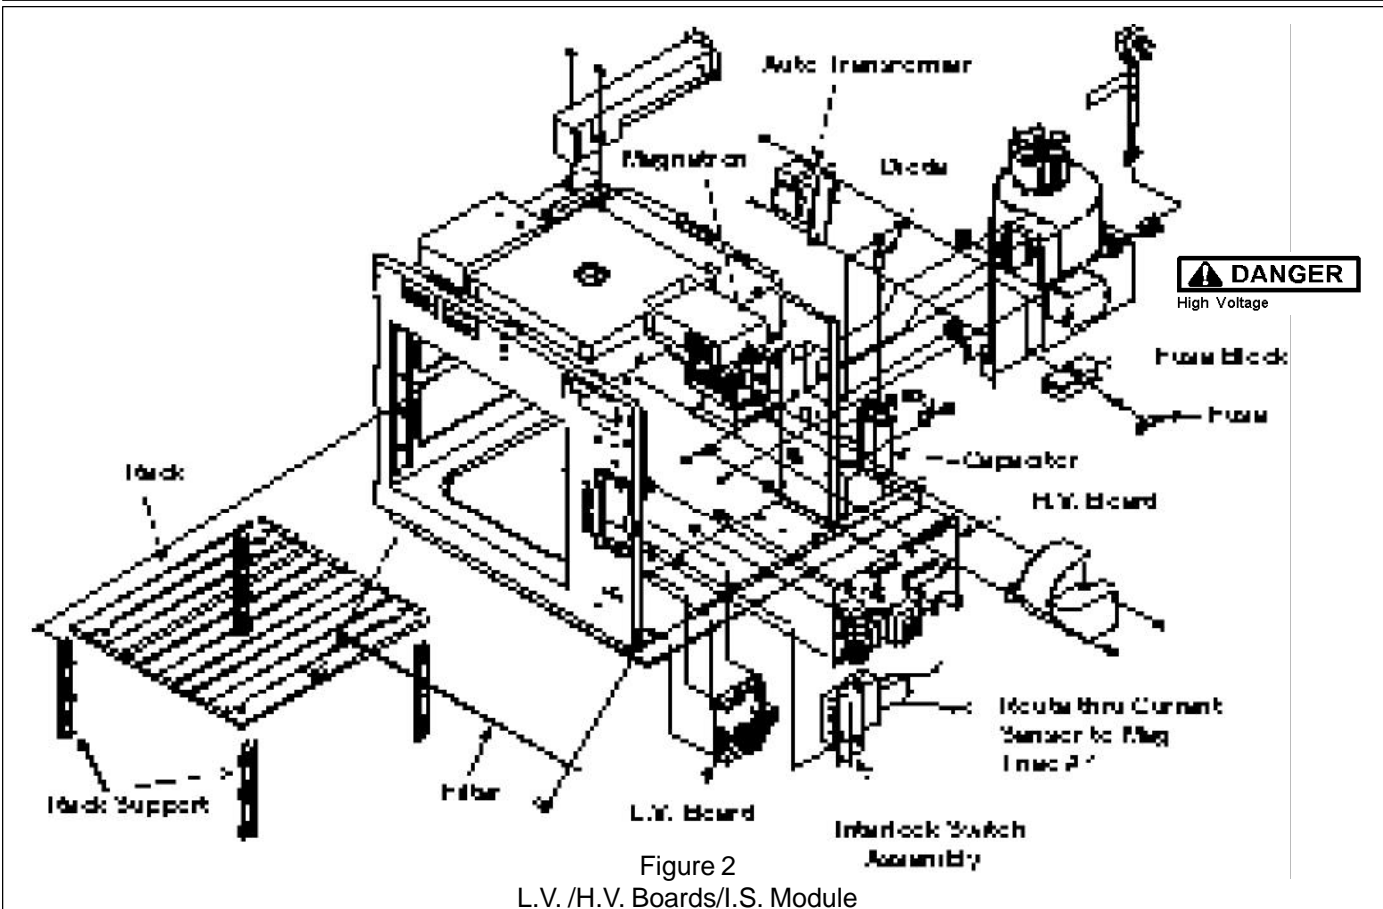

Figure 2
1. See "Component Location" Figure 2, for location.
1. See “Component Location” Figure 2, for location.